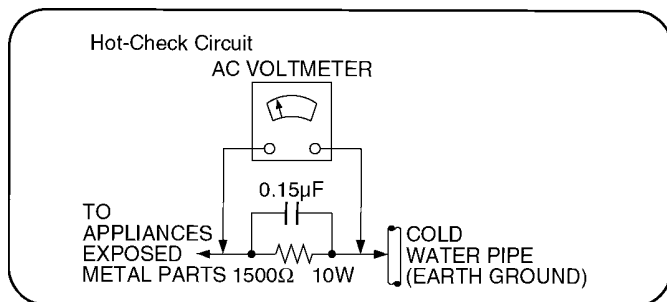

Figure 1
### 1.1.2. LEAKAGE CURRENT HOT CHECK (See Figure 1.)
2. Connect a  $1.5k\Omega$ , 10 watts resistor, in parallel with a  $0.15\mu F$  capacitors, between each exposed metallic part on the set and a good earth ground such as a water pipe, as shown in Figure 1.